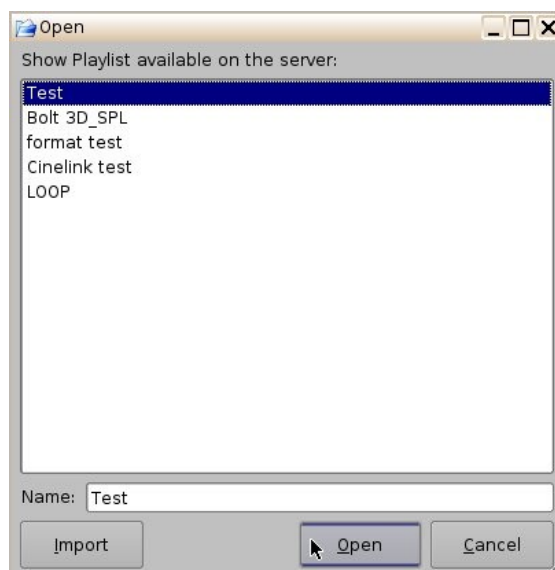

Figure 167: Open CPL Window
- Click the Open button (Figure 167). The Show Playlist will be displayed on the right side of the GUI.
- The user will be prompted to the SPLs Available on Server window (Figure 167).